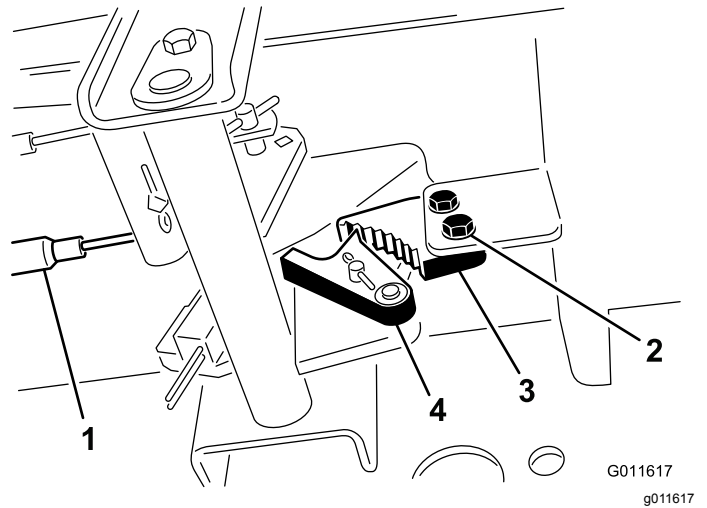

Figure 84
1. Loosen the 2 screws securing the parking-brake pawl to the frame (Figure 84).
2. Press the parking-brake pedal forward until the brake detent completely engages on the brake pawl (Figure 84).